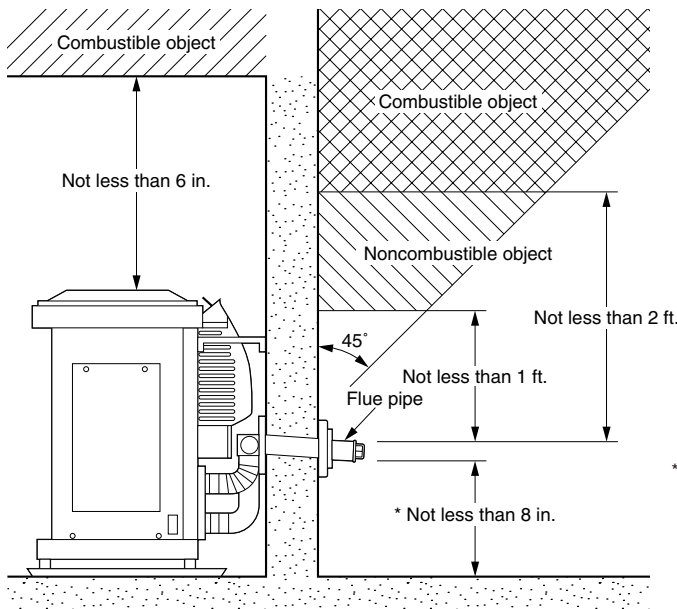

Fig. 2
①	Adjustable Exhaust Pipe Max. 39- 3 / 8 - Min. 22- 7 / 16	1
②	Intake Pipe (40 inch)	1
③	Insulating cloth cover (40 inch)	1
④	Pipe Holder	1
⑤	Pipe Support Hardware	2 sets
⑥	L-Shaped Exhaust Joint	1
When using the "Extension pipe (M)" extension kit, the distance between the heater exhaust pipe connection and the flue pipe connection must be at least 25-5/8 inch but no more than 42-1/2 inch. (See Figure 2 for reference.)
2. Make sure that the outside area to where the flue pipe will reach is clear of any objects. (See Fig. 2 & 3)
**CAUTION!** The standard flue pipe installation, as shown in Fig. 2, is for wall thickness from 4 in. to 9 in. ONLY.